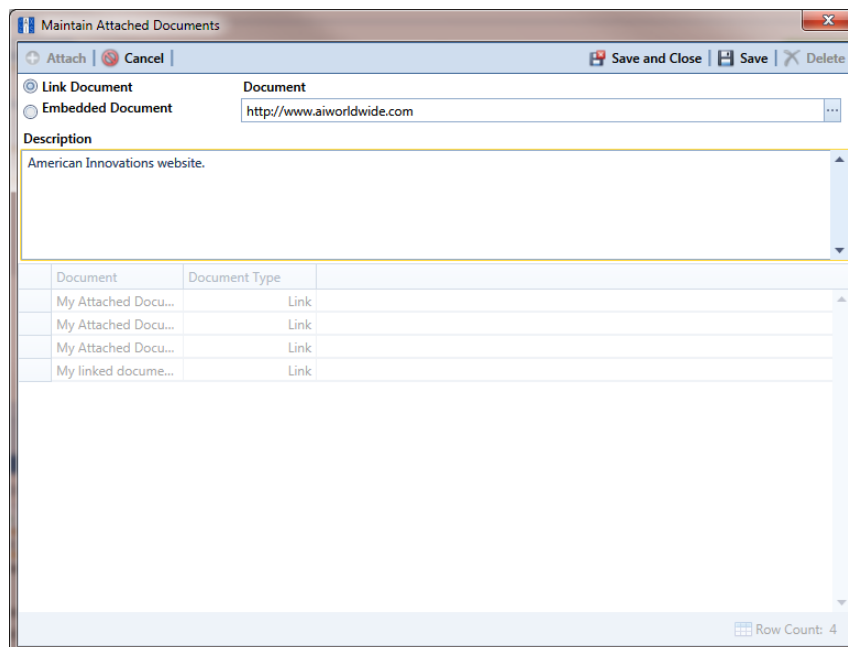

Figure 4-27. Maintain Attached Documents
- 8 If you selected *Link Document* in step 6 and want to add a link to a webpage on the Internet, follow these steps (Figure 4-27):